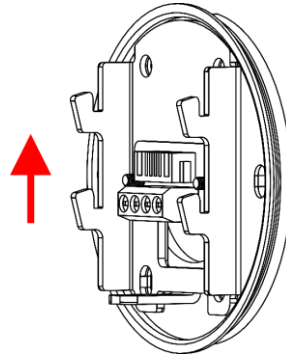

Fig. 14
Install the **mounting plate (07)** with the mounting hooks facing up (Fig. 14).